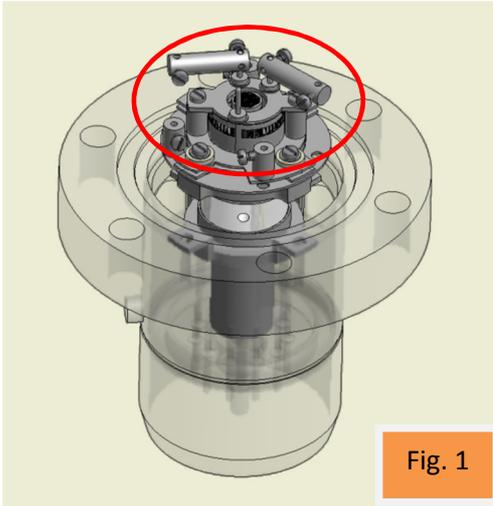

Fig. 1
2. The filaments are located on the very top of the analyser, retained by two M2 x4 pan head screws. The electrical connections are made via two barrel connectors, one to each filament, see Fig.1.
4. Loosen the two grub-screws highlighted in red that secure the ion-source, see Fig.1.